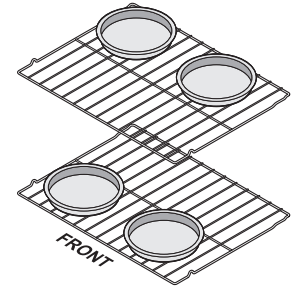

Figure 12: Pan spacing
- When baking using two oven racks, position cookware as shown in Figure 12. Allow at least 2 inches (5 cm) of space between cookware for proper air circulation.